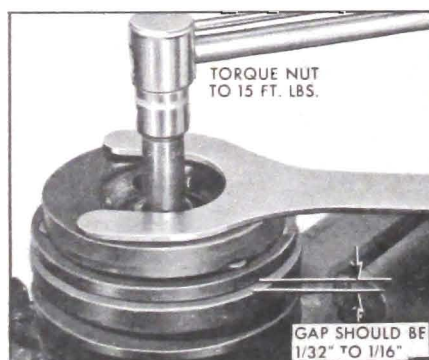

Figure 11-100—Torquing Shaft Nut
6. Install a new shaft nut, using J-9399, special thin wall 9/16" socket. Tighten to 15 lb. ft. torque. The air gap between the frictional faces of the pulley and drive plate should now be between .022" to .057" (1/32" to 1/16") clearance. See Figure 11-100.